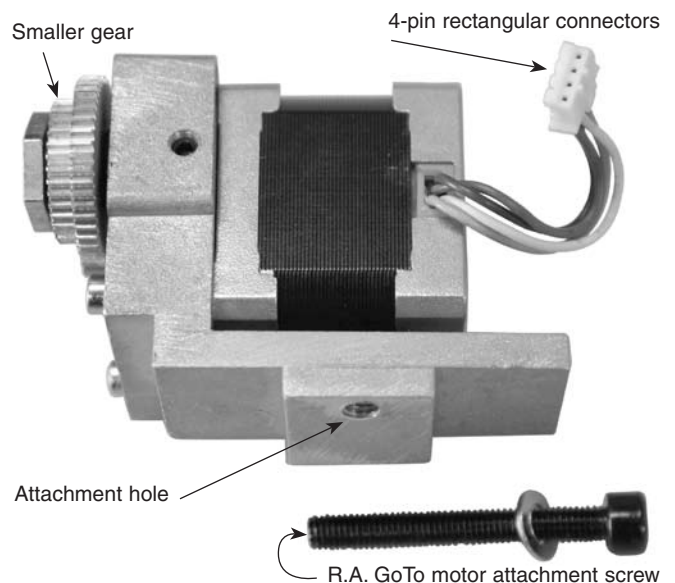

Figure 3. The R.A. GoTo motor assembly
- The R.A. GoTo motor assembly is identified by the 4-pin rectangular connector attached to the motor body (Figure 3). The motor will be attached to the mount by a 40mm long socket-head cap screw that goes through the hole in the rear of the equatorial mount, just above the rear latitude adjustment L-bolt (Figure 4). It will be helpful to remove the rear latitude adjustment L-bolt while installing the R.A. GoTo motor. Place one of the 10mm flat washers onto the R.A. motor attachment screw. Attach the R.A. motor attachment screw to the end of a 4mm hex key and push it up through the hole in the rear of the equatorial mount (Figure 4). Hold the R.A. GoTo drive in your hand so its threaded hole meets the screw as it comes out the other end of the hole. Thread the screw into the threaded hole of the R.A. motor assembly until secure, but do not overtighten. You will need to make small adjustments to the motor position in the following steps.